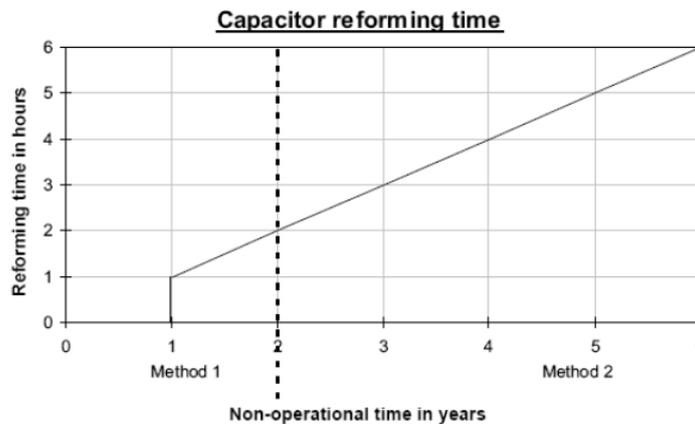
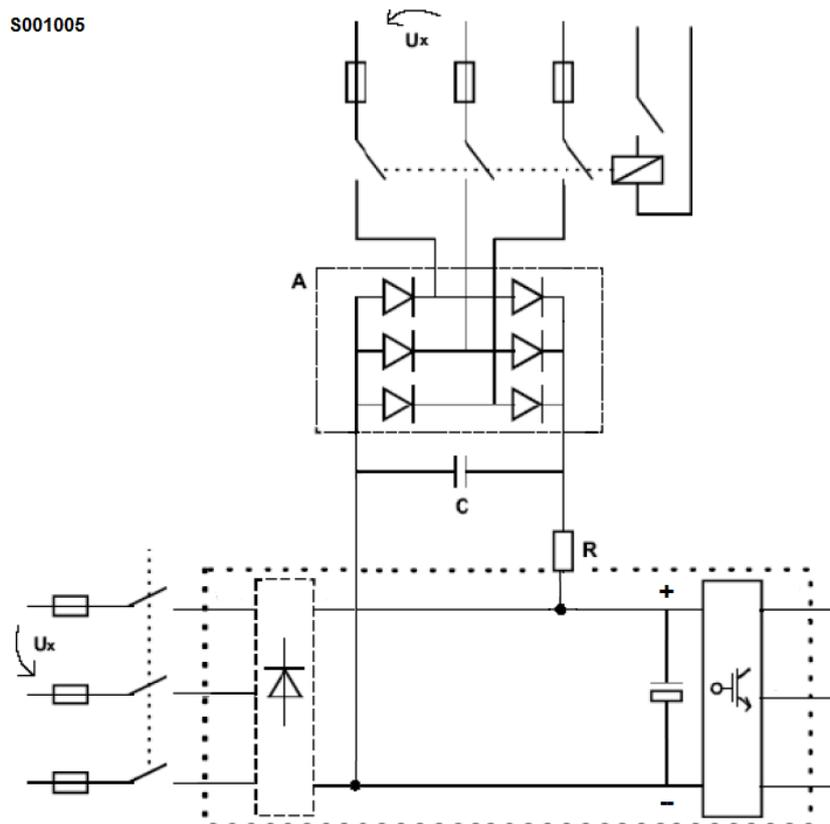

Figure 1. Capacitor reforming time.
Figure 2. The reforming circuit for method 2A.
The intermediate circuit of the drive is kept in its nominal voltage for the reforming time to "wake up" the capacitors. The reforming time required depends on how long the drive has been stocked (non-operational). See figure 1.
Switch the power on to the drive for a time given in figure 1 (Method 1). The drive "wakes up" its capacitors by itself. Power drives up once a year to keep the capacitors in operational condition.
- 2) **Method 2A** Capacitors are reformed by switching in a rectifier and resistor circuit, which is connected to the drive input. The reforming circuit is given in figure 2 below. Circuit component values for different voltages are given in table 1. See the reforming time in figure 1.
An appropriate reforming voltage is $(1.35 \cdot \sqrt{2}) \cdot U_x$. See the reforming time in figure 1.